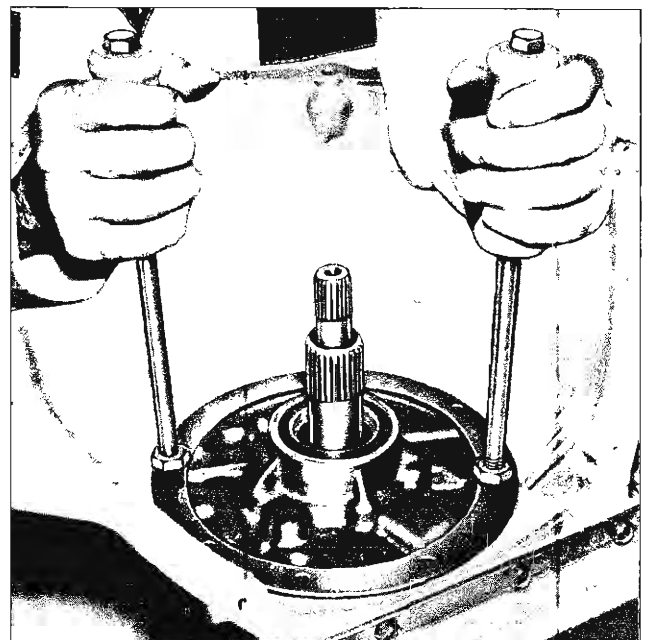

Fig. 11PG—Removing Front Oil Pump
12. Remove the front oil pump and stator shaft assembly and the selective fit thrust washer using J-9539 (or two $\frac{3}{8}$ "-16" x 10" stove bolts) and the slide weights from Tool J-6585 (fig. 11PG). Note the two threaded holes in the pump to mount the pullers. Remove the front pump ring seal and gasket.